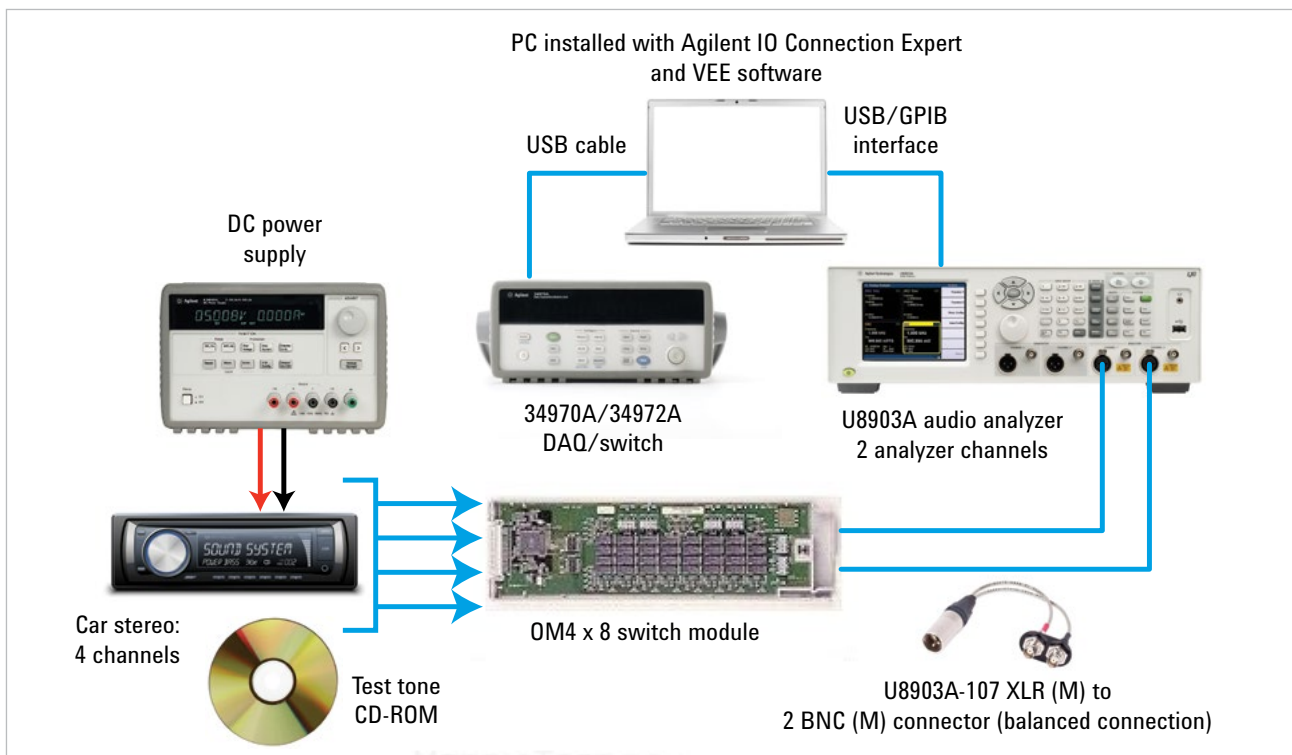

Figure 2. Typical audio testing setup using Agilent instruments
Figure 2 shows this solution's typical test setup for audio testing. In this example, the DUT is a car's audio playing standard test tones. To expand the number of channels that can be tested and support simultaneous parameter testing, the 34970A/34972A DAQ/data logger switch and the 34904A 4 x 8 switch module are connected to the U8903A using a customized cable to maintain a balanced connection: the U8903A-107 XLR-to-2-BNC connectors. An automated Agilent VEE program is used to capture the frequency, AC voltage, and THD+N measurement of the test tone.
1. Connect and power up the instruments shown in Figure 2.